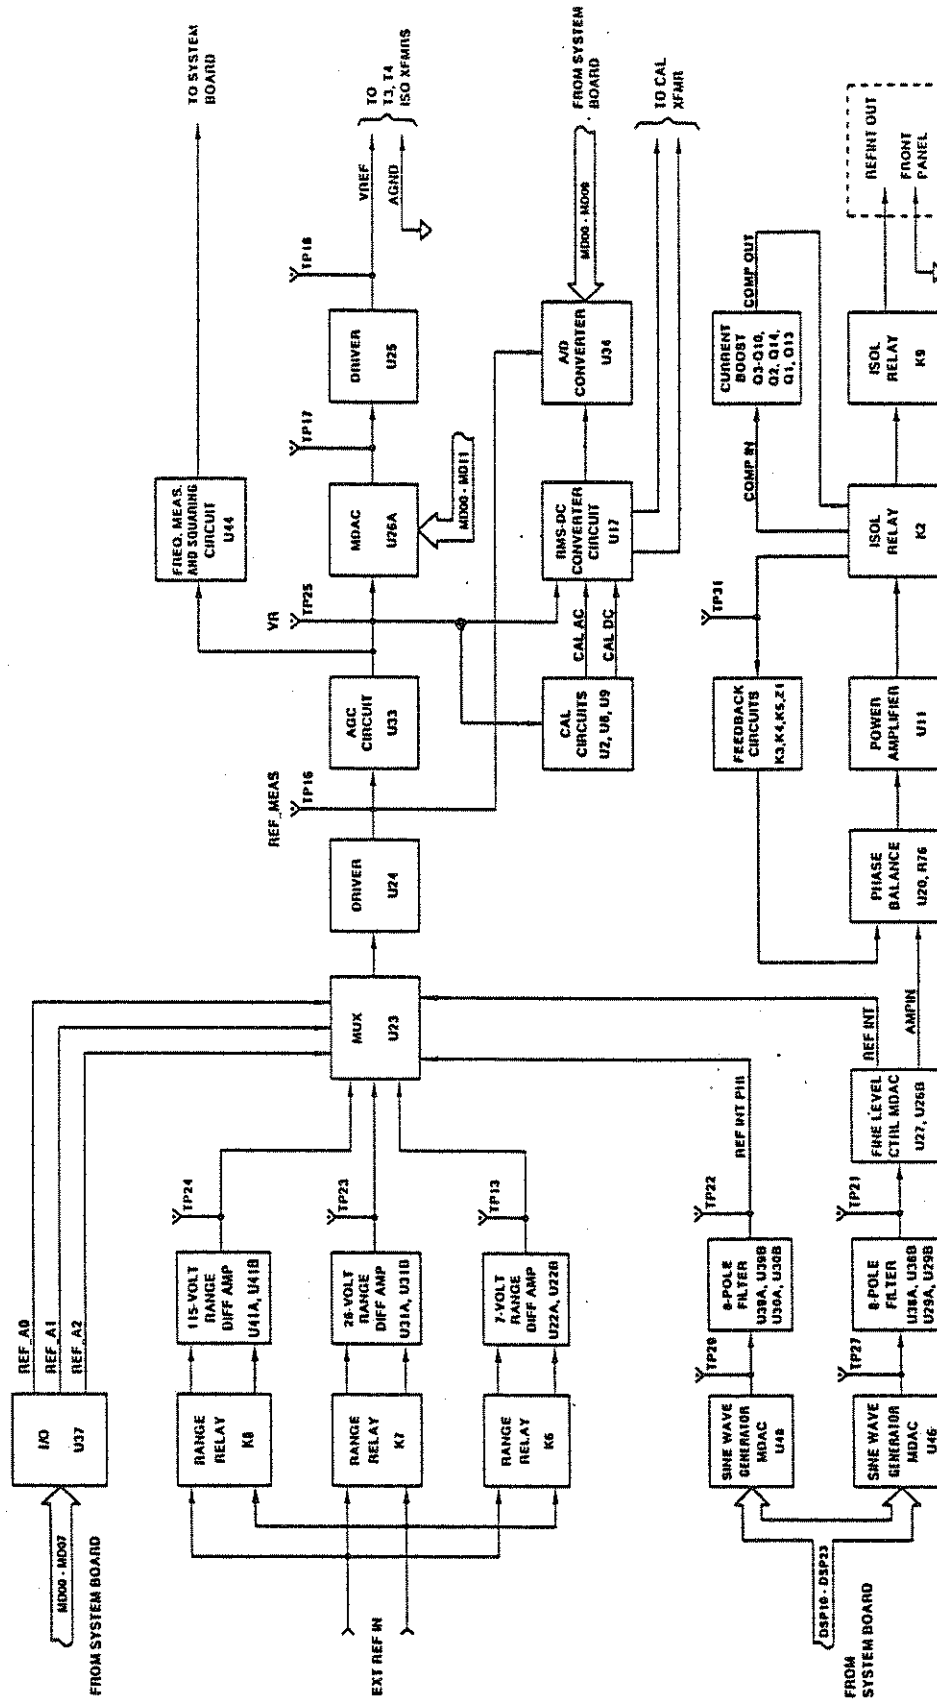

Figure 4-4. Analog Board, Block Diagram
The functional block diagrams for the RSS are shown in figure 4-4 through 4-9. The analog board, the sine/cosine board, the system board, the display/keyboard assembly, and the power supply system are described in the following paragraphs.
4.4.1 ANALOG BOARD (Figure 4-4, 7-1)
The range for the external input waveform is automatically selected (autoranging) by range relays and difference amplifiers shown on figure 4-4.